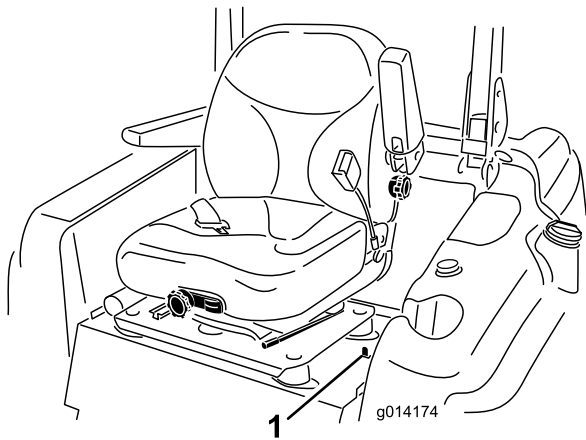

Figure 26
1. Move the seat latch, located on the left side of the seat, rearward to unlatch the seat and pull forward on the top of the seat (Figure 26).